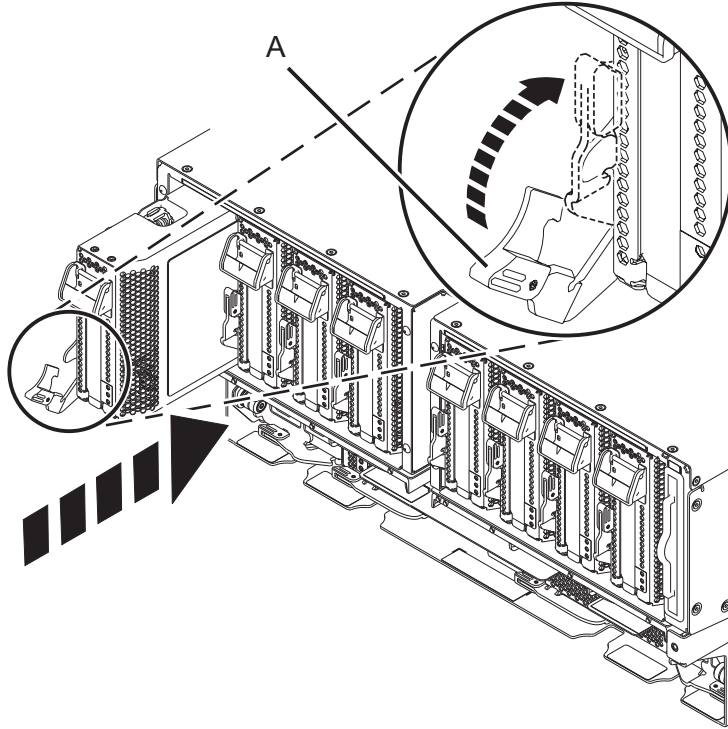

Figure 33. Installing a PCIe adapter cassette in the system
- a. With the cassette handle (A) in the open position, carefully grasp the adapter cassette by its edges, and then align the adapter cassette with the slot. See Figure 33 on page 32.
- c. When the cassette is fully inserted into the slot, rotate the terracotta cassette handle (A) in the direction that is shown in Figure 33 on page 32 to lock the adapter cassette in the slot.